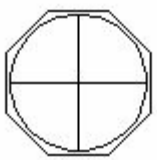

Figure-58. Stop button attached to cursor
- Select the component with description STOP and click on the Insert button. The icon will get attached to the cursor; refer to Figure-58.